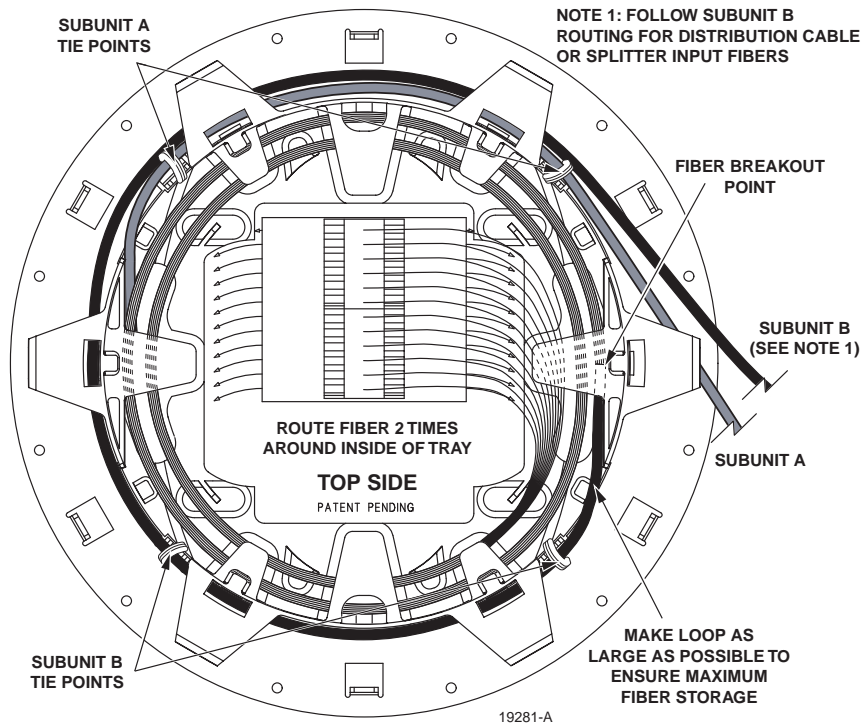

Figure 32. Routing Subunit B Around Front Side of Splice Tray
8. Secure **subunit B** to the splice tray at the points shown in Figure 32. If multiple fibers are being installed, route all fibers simultaneously.
9. Adjust subunit B so the fiber breakout is positioned at the point shown (see Figure 32).